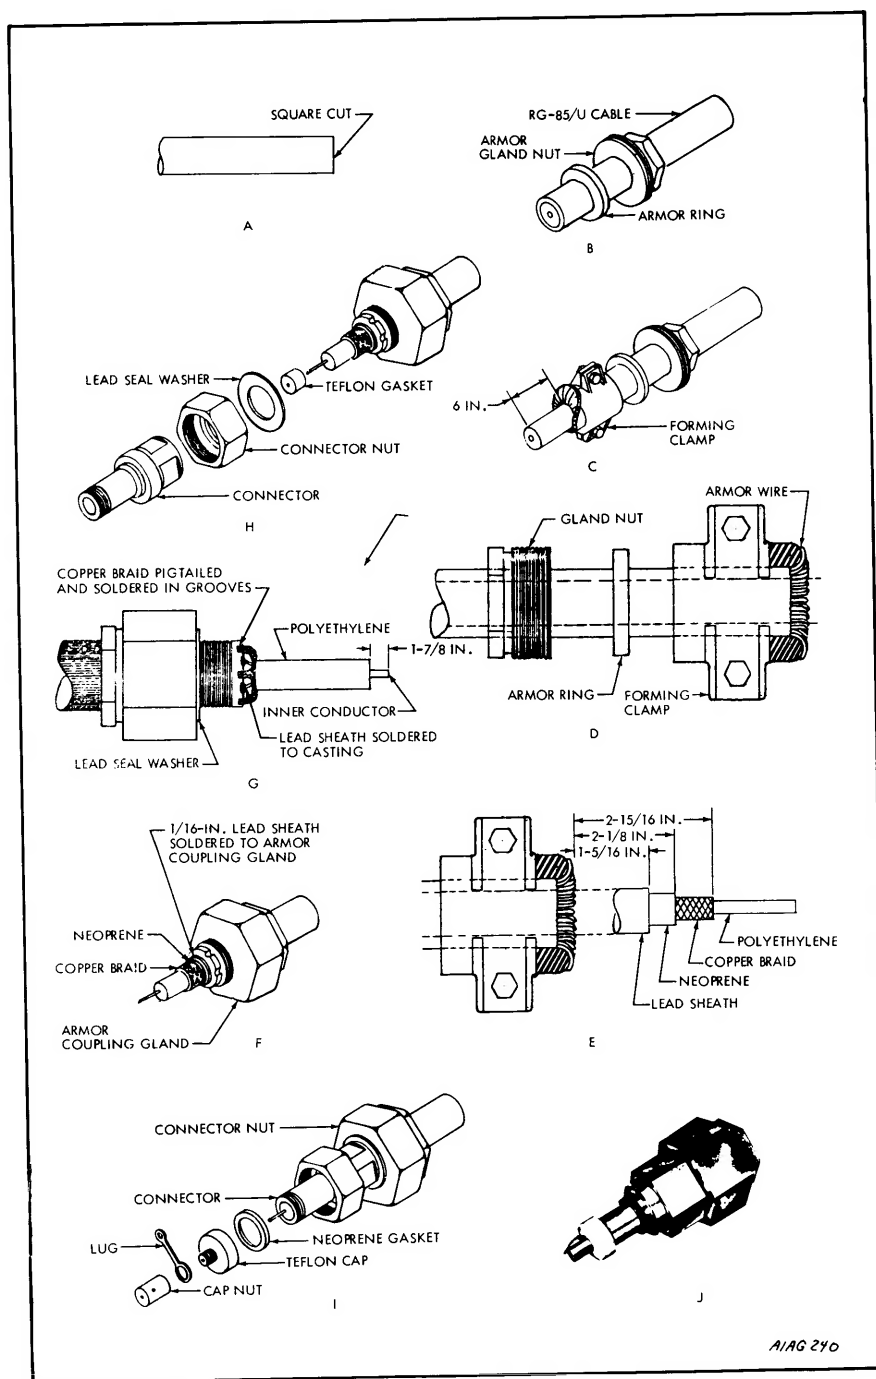
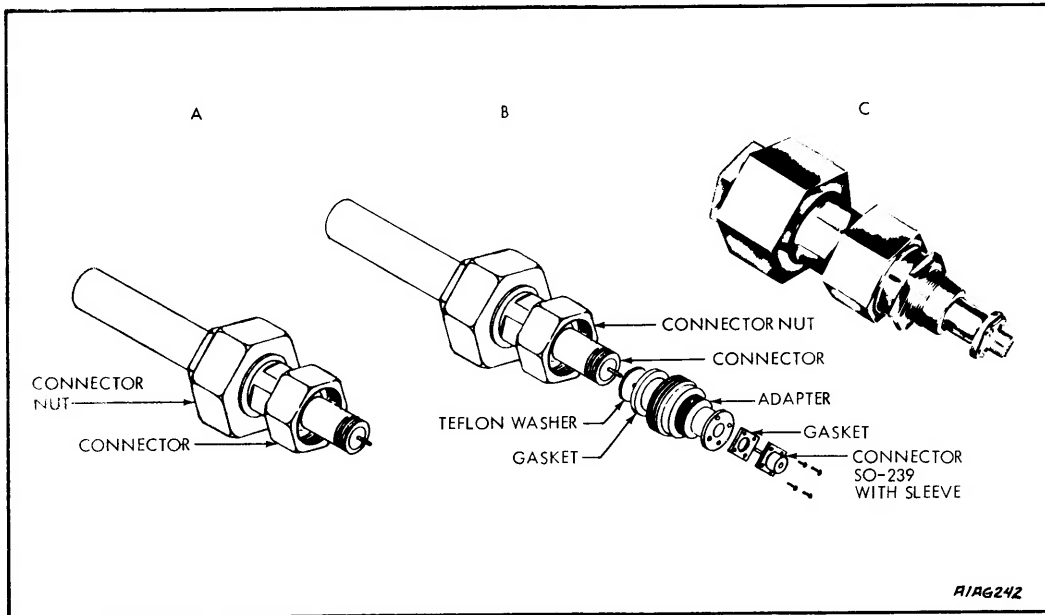

Figure 12-3. Installation of a Typical End Seal
Figure 12-4. Installation of a Typical Adapter
It is sometimes necessary to change from one type of coaxial cable to another, or to install an end seal to terminate the cable run. Since many adapters and end seals for connecting and terminating coaxial cables are available, it is beyond the scope of this handbook to cover all types. Installation procedures for a typical adapter (RG-85/U to RG-12/U) and a typical end seal (RG-85/U) are included to illustrate the methods of installing these connectors. Figure 12-3 covers the end seal; figure 12-4 the adapter. For installation of other adapters and end seals, refer to the manufacturer's instructions for the specific item.
STEP 1. Square off end of RG-85/U cable (A, figure 12-3).
STEP 2. Place armor gland nut and armor ring on cable (B, figure 12-3).
STEP 3. Place forming clamp on cable, six inches from the end, and tighten securely to cable (C, figure 12-3).
STEP 4. Refer to D, figure 12-3 and:
STEP 5. Refer to E, figure 12-3 and:
STEP 6. Refer to F, figure 12-3 and:
STEP 7. Refer to G, figure 12-3 and:
STEP 8. Refer to H, figure 12-3 and:
STEP 9. Refer to I, figure 12-3 and:
STEP 10. Cut off excess inner conductor (see J, figure 12-3).
STEP 1. Perform Steps 1 through 8 of the end-seal installation procedure A, (see figure 12-4).
STEP 2. Refer to B, figure 12-4 and:
STEP 3. Install and tighten assembly screws (see C, figure 12-4).